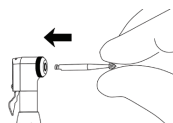

Fig. 2
1. Swing the Latch Plate to open the chuck. (Fig. 2)